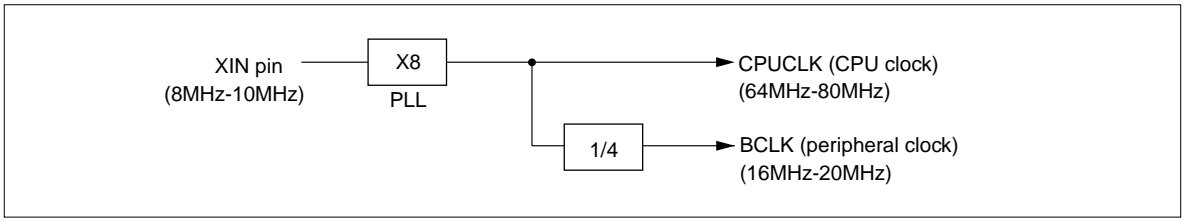

Figure 1.1.1 Conceptual Diagram of the Clock Frequency Multiplier
- The 32180 contains a clock frequency multiplier, which is schematically shown in Figure 1.1.1 below.